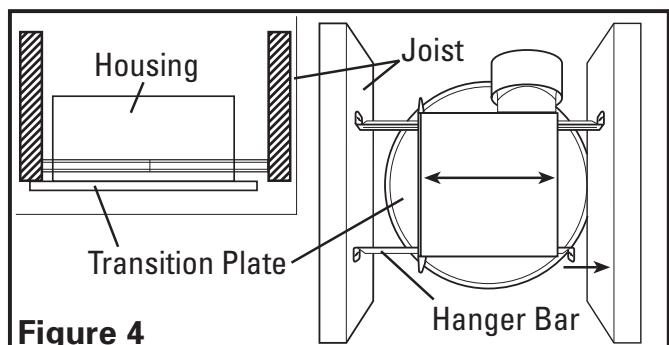
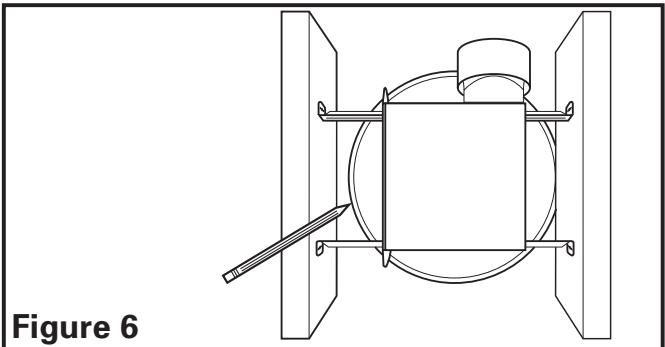

Figure 4
Figure 6
- 1a. **Mounting Rail Installation:** Install the rails on the housing and position the housing next to the joist with the transition plate flush to the underside of the joist. Secure the ends of the rails with screws or nails (not included) to the joists and slide the housing into the final position (**Figure 4**).
- 1a. **Mounting Rail Installation:** Set housing in position between the joist and trace an outline onto the ceiling material (**Figure 6**). Set housing aside and cut opening, being careful not to cut or damage any electrical or other hidden utilities. Install the rails on the housing and position the housing in the previously cut hole so that it is flush with the finished ceiling. Secure the ends of the rails with screws or nails (not included) to the joists (**Figure 4**).